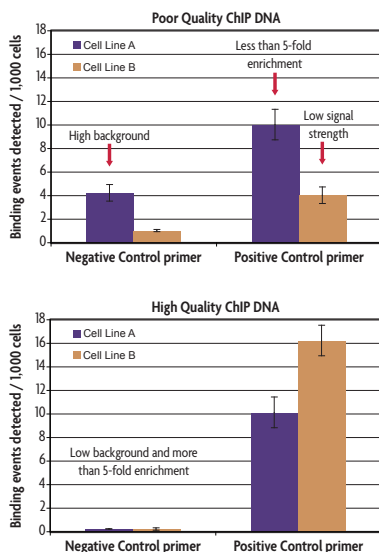

Figure 4: Comparison of qPCR results showing good versus poor enrichment over negative control primers.
- Library generation usually requires 10 ng of ChIP enriched DNA. However, by using the ChIP-IT FFPE Kit the enriched DNA is of such a high quality that sequencing libraries can be generated from sub-nanogram levels of ChIP DNA. For good ChIP-Seq data, quality enrichments with low background is more important than the total quantity of DNA recovered. Therefore, we recommend performing qPCR on known binding sites to verify enrichment levels against a negative control primer set using Active Motif's ChIP-IT qPCR Analysis Kit (Catalog No. 53029) to confirm DNA quality rather than quantifying the DNA. Quality DNA that is suitable for use in ChIP-Seq should show enrichment of known binding sites over negative control primer sets of 5-fold (See Figure 4 on page 17). If the qPCR enrichments are satisfactory then the remaining 30 µl of ChIP DNA can be used for library generation.